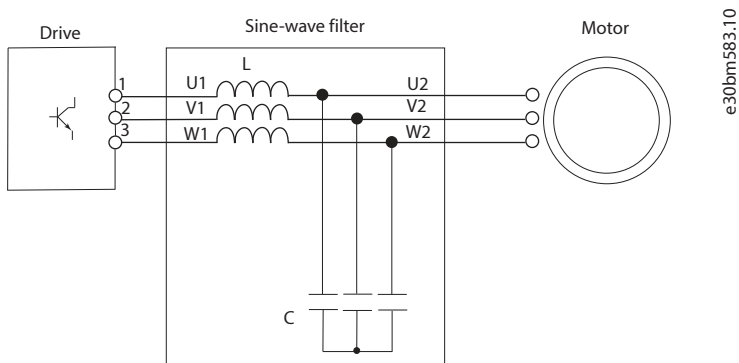
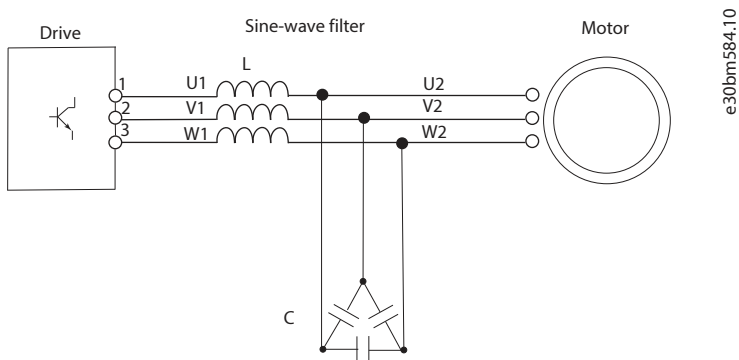

Figure 15: Filter Capacitors Connected in Star Configuration (Y Connection)
Figure 16: Filter Capacitors Connected in Delta Configuration
- If the sine-wave filter is a non Danfoss type, select whether the capacitors are connected in start or delta, see Figure 15 and Figure 16.